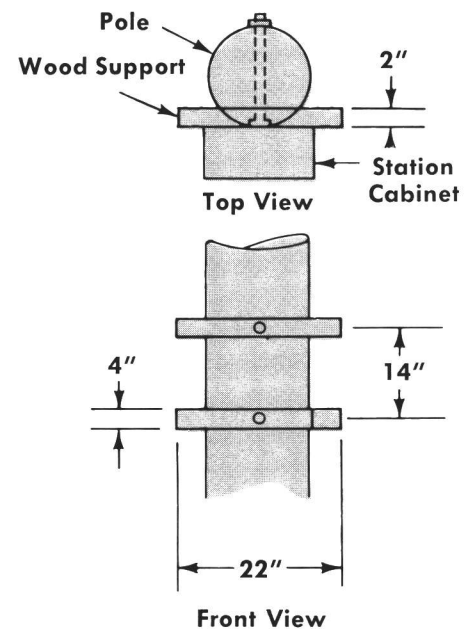

FIGURE 5—INSTALLATION TO A SINGLE POLE
1. Cut horizontal mounting surfaces for two 2" by 4" wood supports on pole. Cut should be about 1" deep to allow outside surface of wood support to extend out from curvature of pole (see Figure 5).